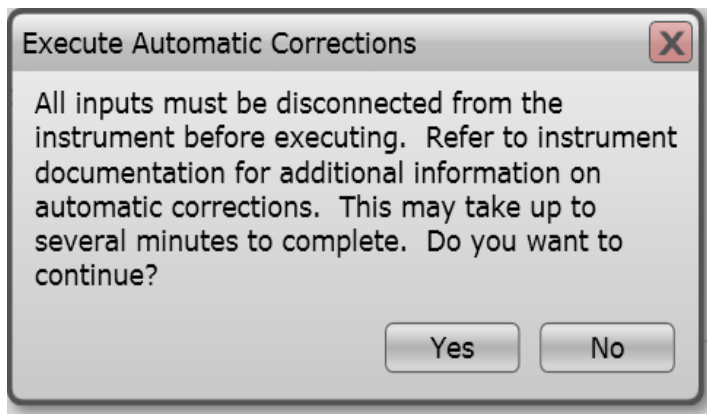

Figure 11 Reminders to disconnect inputs
- 10 If you have not yet removed all cables connected to the M9195A, disconnect them as you are prompted by the SFP (as in Figure 11).